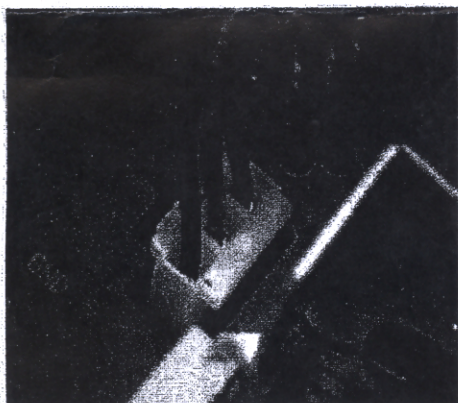

Figure 1: Connector from motor attached to control
4. Separate the control and motor enough to reach inside and detach the 3-pin connector between the motor and control (shown in Figure 1).